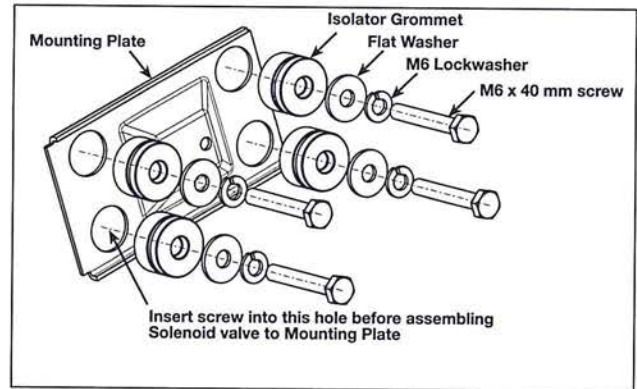

Fig. 8
- c. Insert the isolator grommets into the large holes in the Solenoid Mounting Plate as indicated in Figure 8.
- d. Note the orientation of the mounting plate in Figure 8. The distance from the end of the plate to the raised area in the center of the plate is greater on one side than the other. The side with the greater distance is the left side of the plate when the raised portion is facing toward you (when installed, this side points toward the passenger side of the vehicle). Holding the plate in this orientation, insert one M6 x 40 mm screw, washer, and lockwasher into the isolator grommet in the lower left corner of the plate. See Figure 8 for correct orientation of these attaching parts.